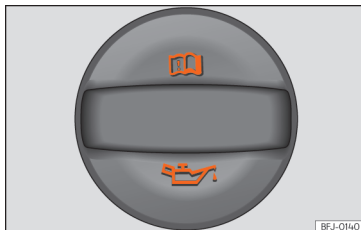

Fig. 243 In the engine compartment: Engine oil filler cap.
- Unscrew cap from engine oil filler opening »» **Fig. 243**.